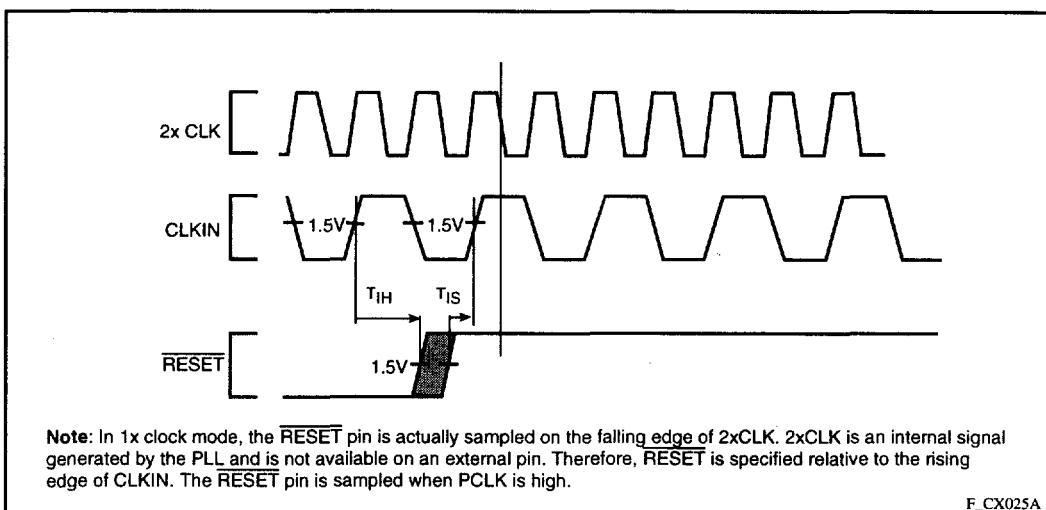

Figure 23. Clock Synchronization in the 1-x Clock Mode
14. In 1-x clock mode, RESET is an asynchronous input which has no required setup and hold time for proper operation. However, to guarantee the device exits reset synchronized to a particular clock edge, the RESET pin must meet setup and hold times to the rising edge of the CLKIN. (See Figure 23.)